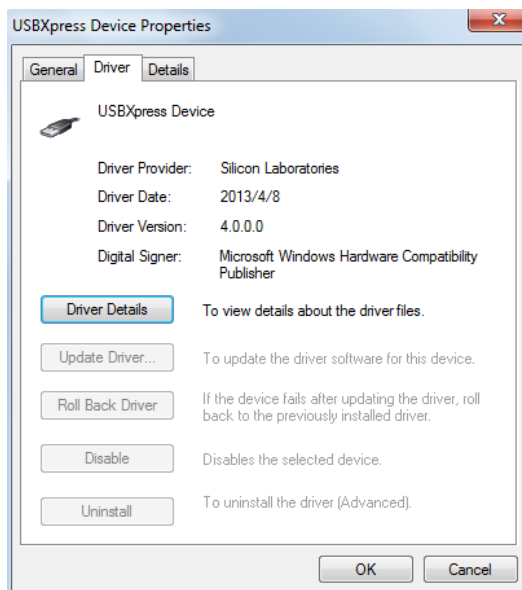

Figure 18: Correct Driver Version
If the PC is running Windows 10, check the driver version of USBXpress Device. Windows 10 automatically installs the older USB driver, which is not compatible. The correct driver version is 4.0.0.0 (see Figure 18).
2. Connect the EVKT-USB2C-02 or EVKT-USBSP1-00 communication interface to the PC with the USB cable (see Figure 18 on page 16).